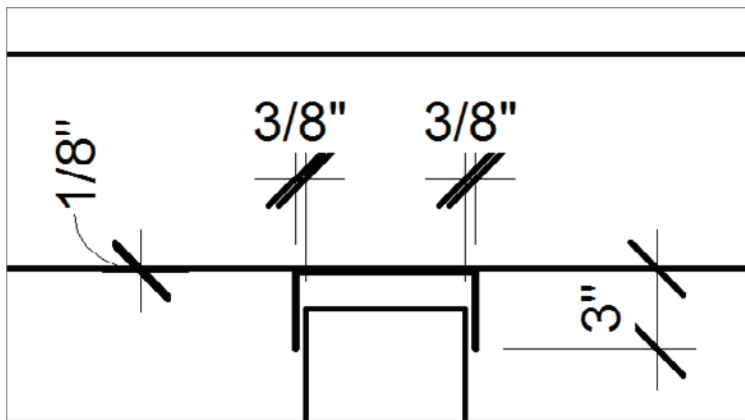

FIGURE 12.68 The top track is now in place.
The next step is to add the track to the bottom of the floor. You'll do this by creating three wide lines. The trick is to do a good amount of offsetting. If you want to explore and try the procedure on your own, try to match Figure 12.68 dimensionally. Remember, you're using wide lines for the track.
12. Delete the 3" horizontal line. Your detail should now look like Figure 12.68.